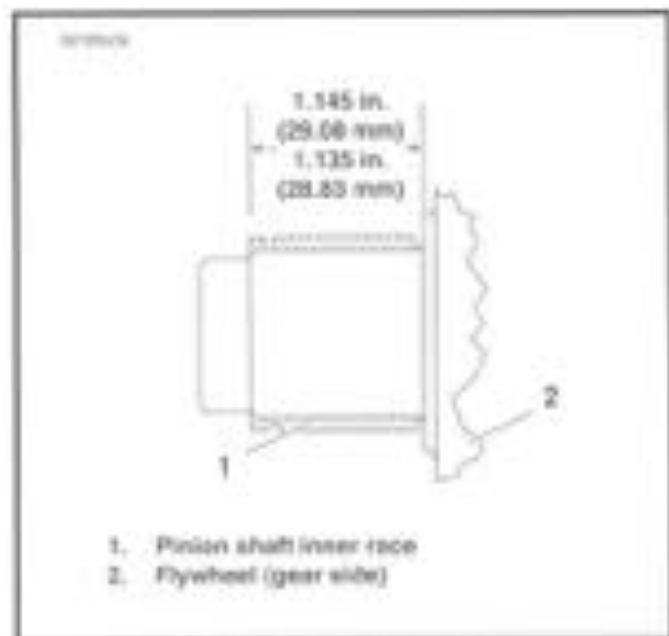

Figure 3-88. Inner Race Location
11. See Figure 3-88. Press new inner race on pinion shaft as shown. The new inner race must be ground by a machinist to OD dimension range given in Pinion Shaft Bearing Selection table for the finished lapped ID of the outer race. The finished inner race must meet these specifications.